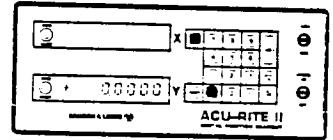

Figure 6
3. Push the CLEAR key to clear any previous number from the preset memory. The display will blank out except for the decimal point (Figure 6).